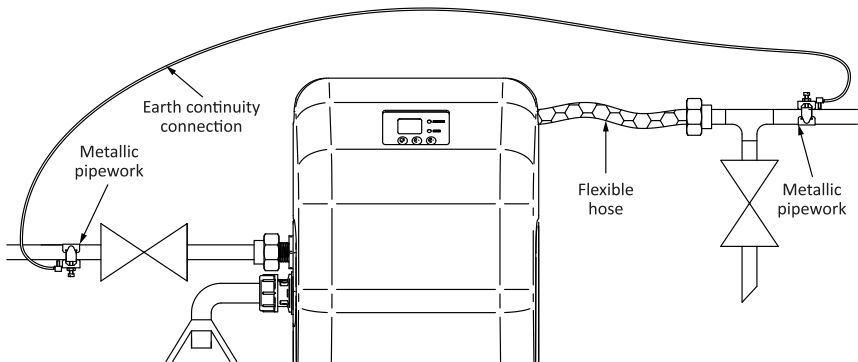

Fig. 12
- 7.15 Adjacent pipes:** Adjacent suction and delivery pipes should be fitted with earthing clamps in accordance with current regulations (Fig. 12).